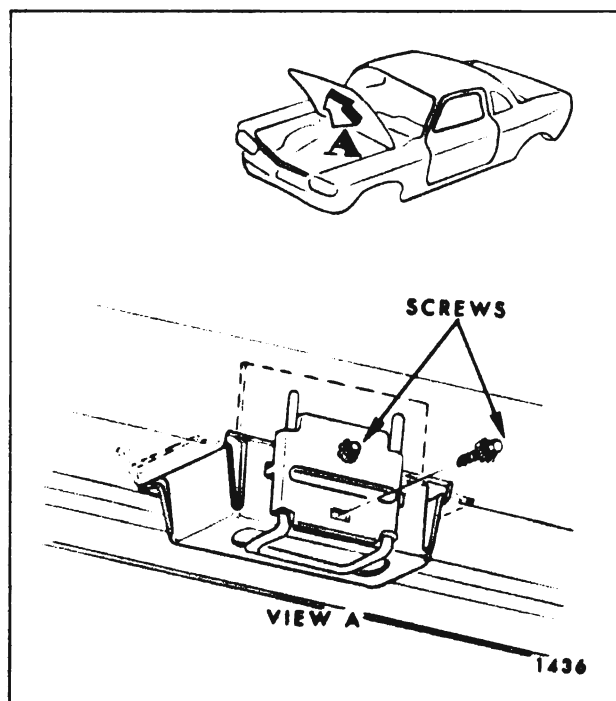

Fig. 5-23—Front Compartment Lid Lock Striker
2. Remove striker retainer plate attaching bolts and remove retainer plate and striker (Fig. 5-23).